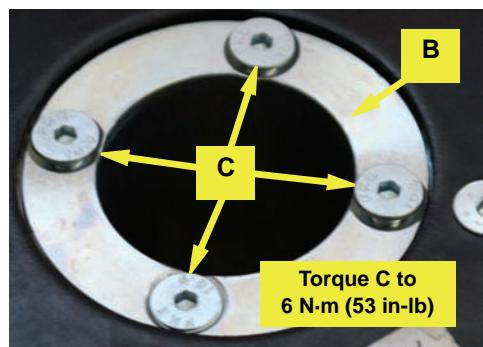

Figure 2c: Securing the shaft adapter. See Warning.
- Using the four countersunk screws **C**, secure the shaft adapter **B** in the steering wheel. Torque the screws to **6 N·m (53 in-lb)** (Figure 2c).